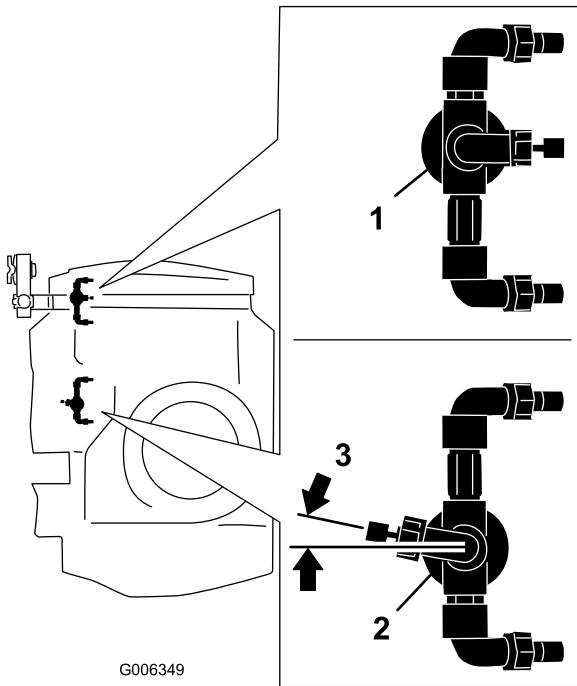
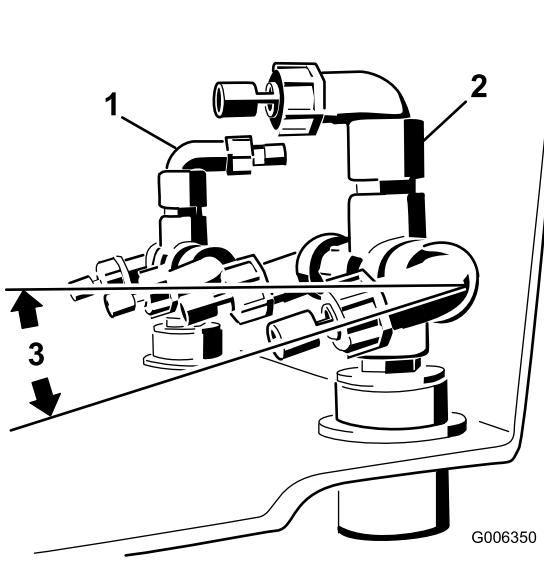

Figure 3
Figure 4
2. Adjust the loose fitting so that the nozzles on the forward and rear are set to the approximate degrees shown in Figure 3 and Figure 4.